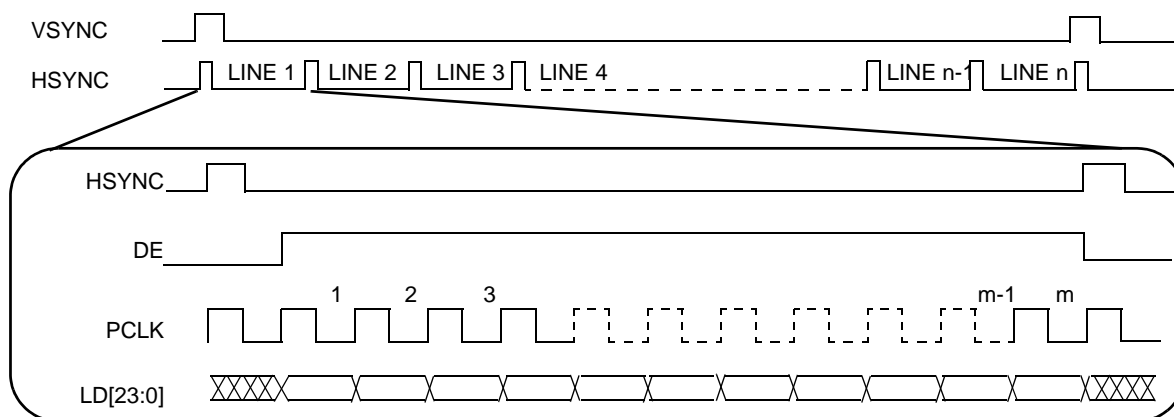

Figure 22. TFT LCD interface timing overview1
Figure 22 depicts the LCD interface timing for a generic active matrix color TFT panel. In this figure signals are shown with positive polarity. The sequence of events for active matrix interface timing is:
1. In Figure 22, the “LD[23:0]” signal is “line data,” an aggregation of the DCU's RGB signals—R[0:7], G[0:7] and B[0:7].